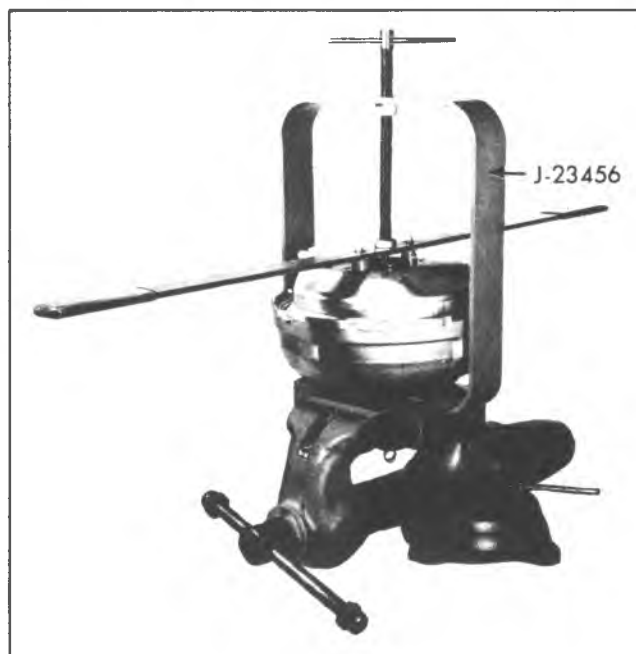

Fig. 5-1A—Unlocking Front and Rear Housings
2. Mount unlock Tool J-23456 in a vise. Position housing assembly on tool so that four studs fit in holes provided. See Figure 5-1A.